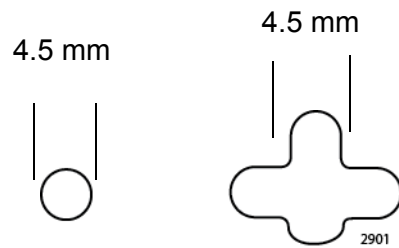

Figure 16. Hole Dimensions
- The holes have a diameter of 4.5 mm (0.2 in.). Refer to Figure 16.